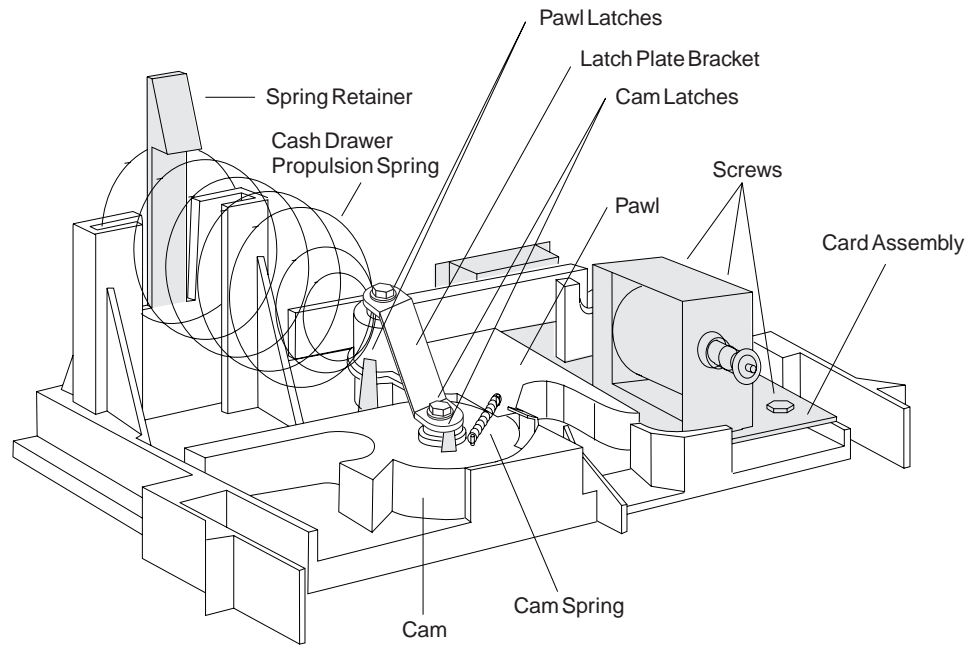

Figure 18. Cash drawer latch and sensor assembly
4. Remove the cash drawer propulsion spring by pushing the spring retainer back then sliding the spring up and out of its mounting slots (see Figure 18).
5. Remove the latch plate bracket by removing the screw in the cam pivot post and the screw in the pawl pivot post (see Figure 18).
6. Remove the cam spring by lifting the ends of the small posts on the cam and the pawl (see Figure 18).
7. Spread apart the two pawl latches that hold the pawl on the pivot post, while lifting the pawl off of the post (see Figure 18).
8. Spread apart the two cam latches that hold the cam on the pivot post, while lifting the cam off of the post (see Figure 18).
9. Remove the three screws that retain the card assembly, and remove the card assembly (see Figure 18 on page 19).